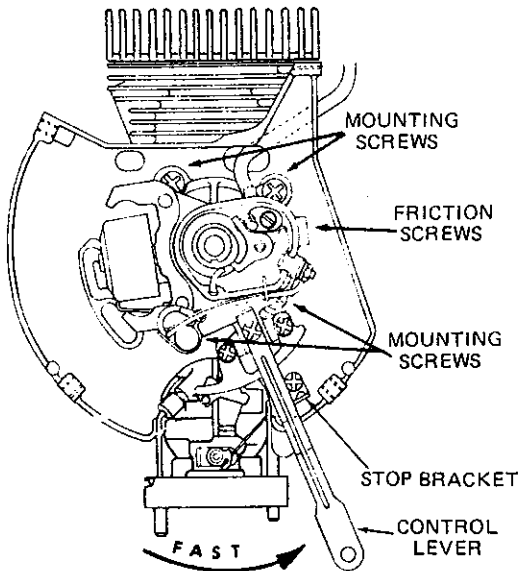

Figure 4
- (2) Remove flywheel retaining nut, starter cup and flywheel.
- (3) Remove the blower housing, loosen the friction screw securing magneto to base assembly. Disconnect wire from magneto to transformer on units with solid state ignition. On all models, remove the magneto assembly. (See Figure 4).
- (4) Remove 6 cylinder head screws, cylinder head and gasket. Be careful not to damage fins if it is necessary to pry head from cylinder.
- (5) Unbolt and remove carburetor from the reed plate assembly. Remove the 4 screws mounting reed plate, then remove reed plate assembly.